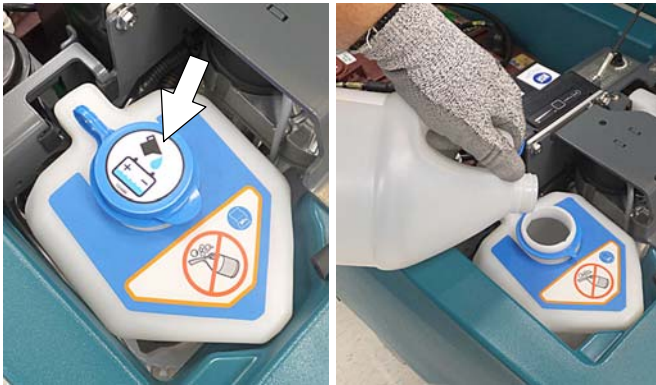

FIG. 107
12. Automatic battery watering option - Refill tank with distilled water (Figure 107). Replace cap.